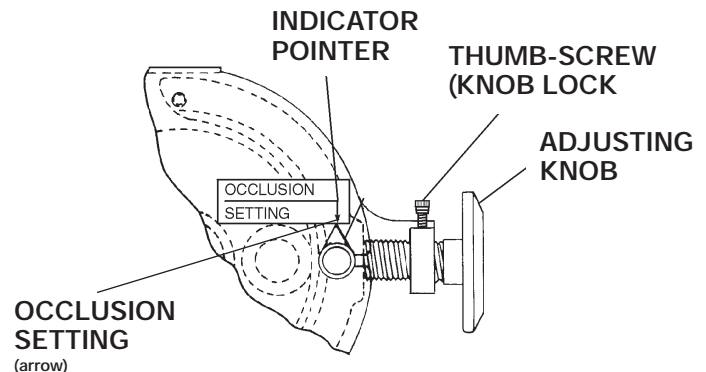

Figure 4. OCCLUSION SETTING
11. Turn the motor on and turn the adjusting knob clockwise until the indicator pointer aligns with the OCCLUSION SETTING arrow (see Figure 4).
The only operating control on the pump head is the occlusion adjusting knob (see Figure 4).